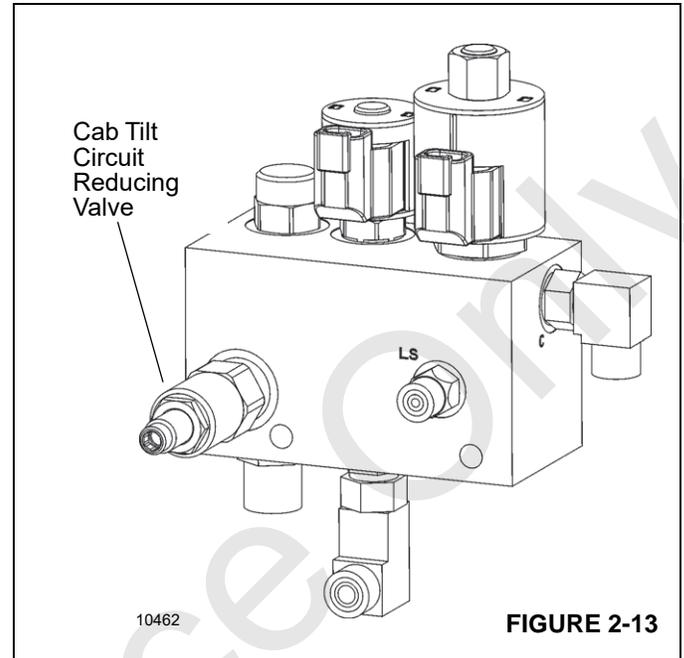

FIGURE 2-13
The tilt cab circuit is controlled by a single reducing valve (Figure 2-13 and Table 2-3) located inside the turret near the manifold valve with a setting. The valve is operated by a solenoid controlled by a switch on the right side armrest of the crane cab seat.
1. Install a 345 bar (5000 psi) minimum gauge in the GP2 gauge port on the directional control valve. See Figure 2-13.